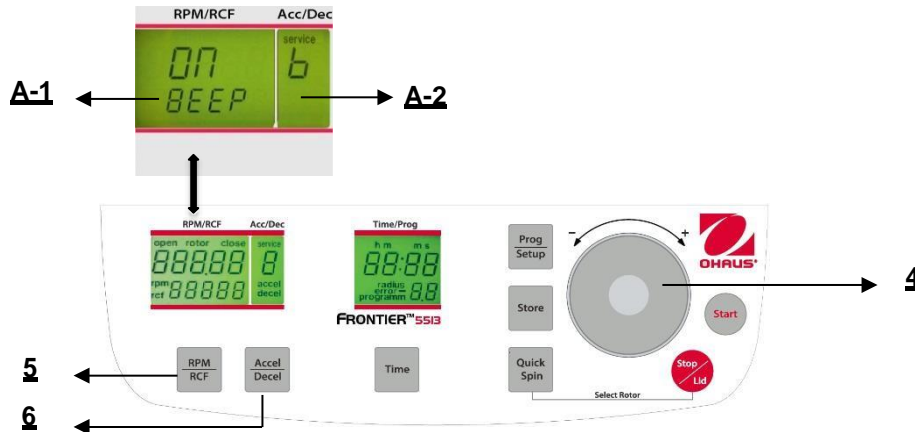

Figure. 30
Proceed as described under point 4.1.2 to enter this program mode and then press the key "**Accel/Decel**" (6). In the display "**Acc/Dec**" (A-2) the word "**Service**" flashes. Now select the letter "**B**" with the adjusting dial (4). As a result, in the display "**RPM/RCF**" (A-1), the word "**ON/BEEP**" appears. After pressing the key "**RPM/RCF**" (5), you can turn the keyboard sound (On) or (Off) with the adjusting dial (4). (see figure 30). After you have stored the settings (see 4.1.2) you can change back to the normal program mode again by switch off the centrifuge for a short while.